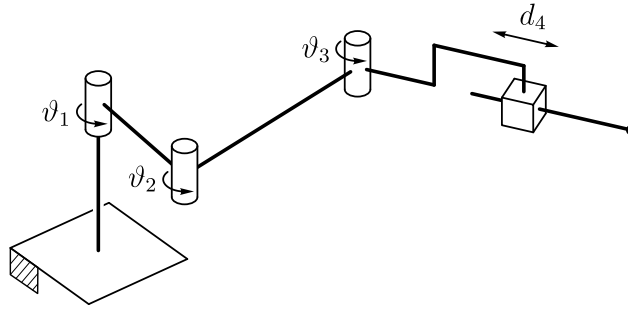

Figure 2: Piston-rod-crank system.
3. Consider the kinematics of the piston-rod-crank system illustrated in Figure 2, where the fourth link is representative of the piston's translation constraint (the cylinder). Given a position and orientation for said constraint, solve the inverse kinematics of the system. As a suggestion, and since the system is redundant, you may fix either the crankshaft's rotation angle or the piston's displacement to determine the configuration of the remaining degrees of freedom.